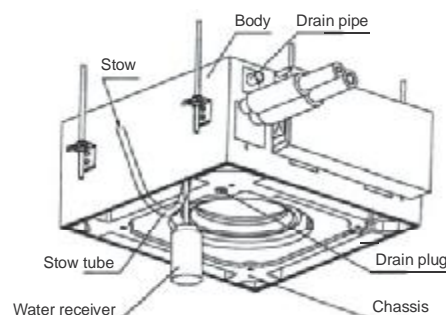

Fig.9-3
- Remove the test cover, and stow water of about 2000ml to the water receiver through the stow tube. (Refer to Fig.9-3 in the figure page)